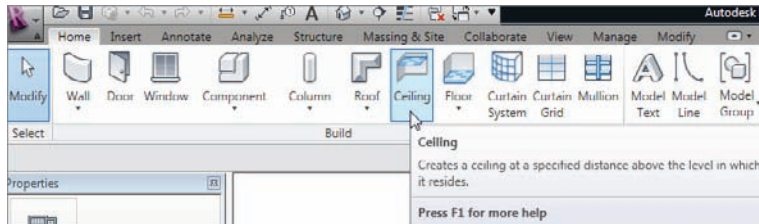

FIGURE 9.2 The Ceiling button on the Home tab of the Design bar
2. On the Home tab, click the Ceiling button, as shown in Figure 9.2.